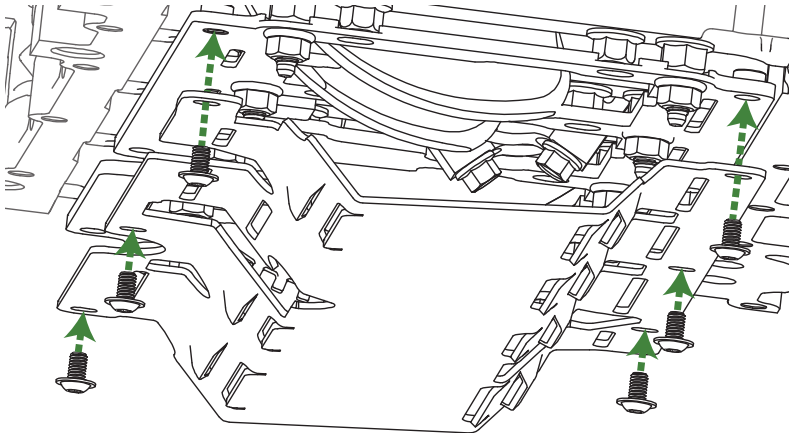

Figure 9 - Installing the Improved Racing Windage Tray
9. Secure the Improved Racing windage tray to the crank scraper using all of the HSC-1037 screws provided with the kit, as shown in Figure 9. Use a 4 mm hex tool to torque the screws to 5 lb-ft (6 N·m).